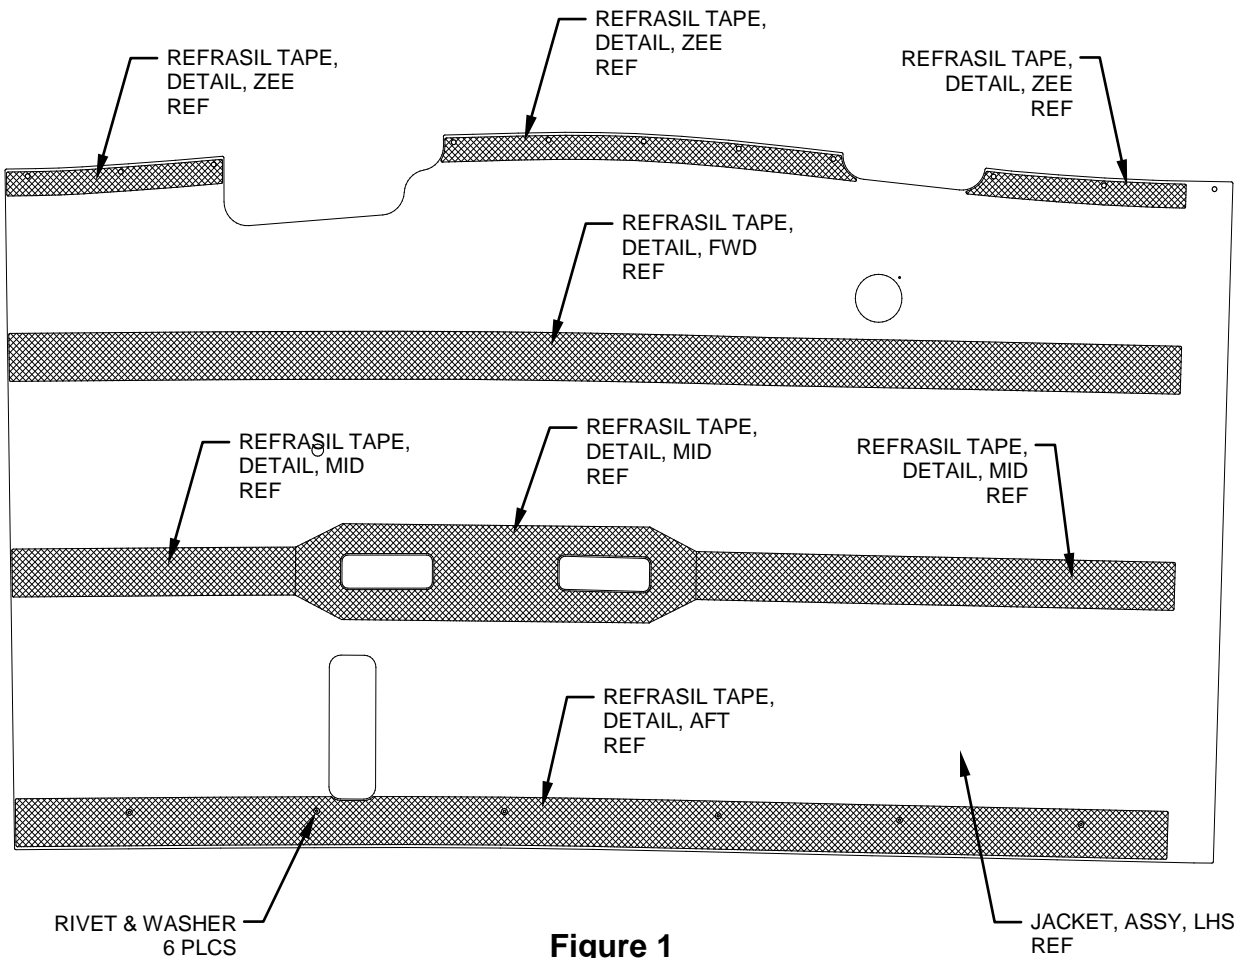

Figure 1
1. Place masking tape on the inner surface of the Jacket, Assy, RHS to mark the locations of the existing Refrasil Tape, Details as required. Remove the rivets and washers retaining the existing Refrasil Tape, Detail, AFT as shown. Remove and disregard all existing Refrasil Tape, Details. Reference Figure 1.